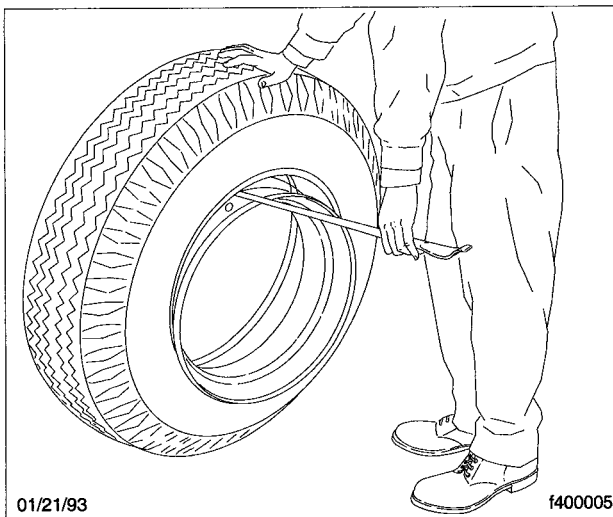

Fig. 4, Pry the Rim Out of the Tire
- 5.3 When the first bead is off the rim, and the second bead is in the rim well, stand the assembly upright with the valve stem near the top. Lubricate the second bead and rim. Insert the straight end of the tool between the tire bead and the back rim flange, hooking the tool over the second flange. Lean the tire assembly toward the tool and use a rocking or bouncing action to pry the rim out of the tire. See Fig. 4.